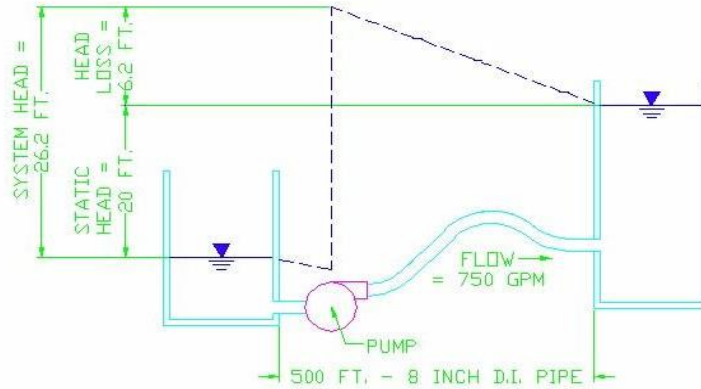

Figure 3.6 Static head, head loss and system head
- For example, in the system shown in Figure 3.6, static head is 20 feet. At 750 gpm, the friction head loss in the 500 feet of pipe is 6.2 feet. Therefore, system head at 750 gpm is 26.2 feet.